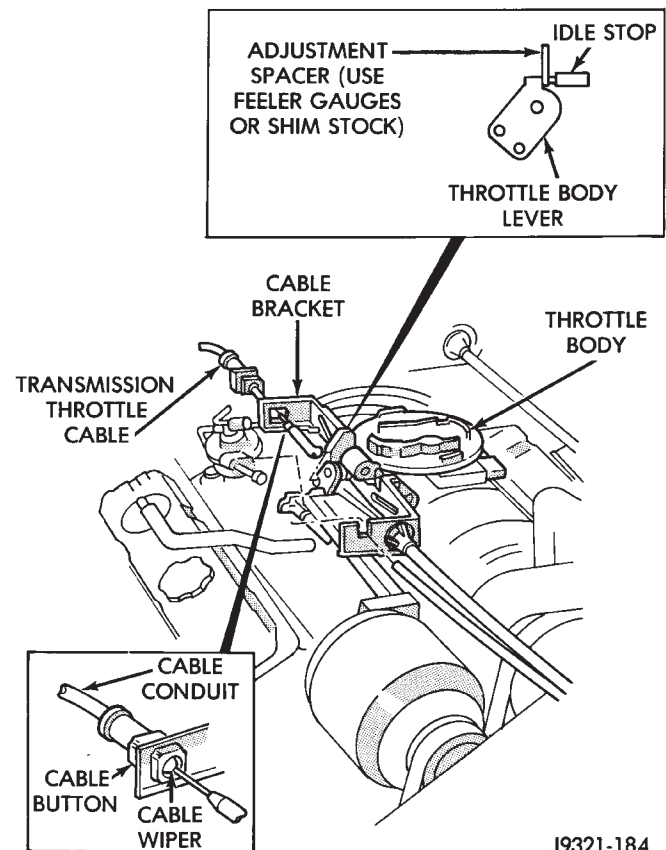

Fig. 3 Throttle Cable Attachment At Engine
- (1) Turn ignition key to OFF position.
- (2) Remove air cleaner.
- (3) Position 2.8 - 3.0 mm (0.110 - 0.120 in.) thick spacer between idle stop and throttle lever on throttle body. Use appropriate thickness of feeler gauges or shim stock as spacer (Figs. 3 and 4).
- (4) Press cable lock button to release cable (Fig. 3).
- (5) Pull cable conduit toward rear of vehicle until wiper is completely retracted into end of conduit fitting (Fig. 3). Then release cable lock button.